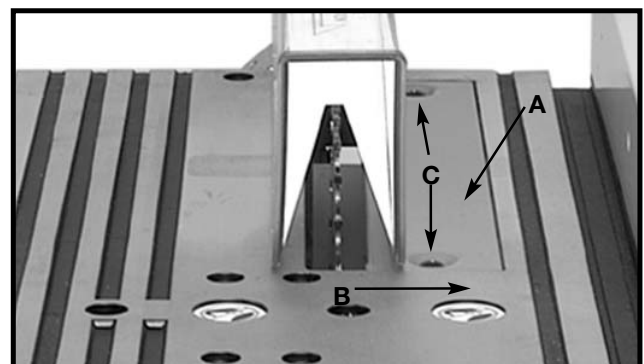

Fig. 33A
1. Make sure that the table insert (A) Fig. 33A, is flush with, or slightly below, the surface of the table (B) on the front edge of the insert and flush with, or slightly above the surface of the table on the back edge of the insert.
2. If the table insert is above the surface of the table, tighten the two table insert screws (C) Fig. 33A to lower the insert.